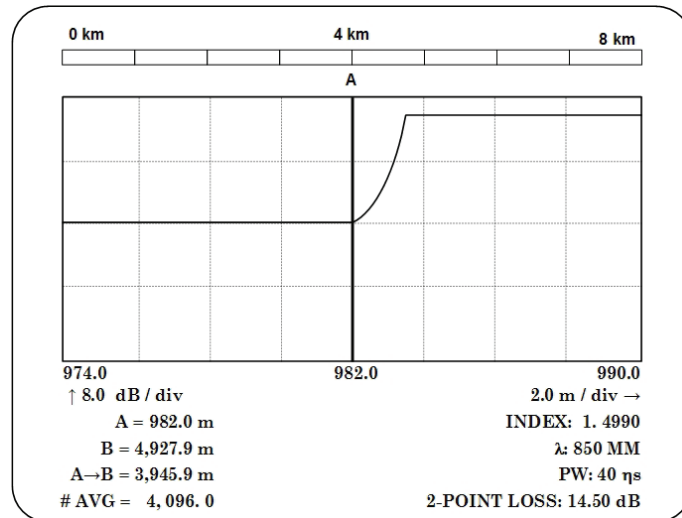

Figure 25. Example of FOCUS generated pulse placed in best possible position with respect to cursor A (TD-260C).
- (4) Press digital delay generator **MENU DELAY** pushbutton to increase $A = T+$ by 1 nanosecond.
- (5) Press **FAST SCAN** pushbutton and wait for **LASER ON/AVG** to go off display.
- (6) Repeat technique of (4) and (5) above until very beginning of FOCUS generated pulse is on cursor A, figure 25. (Digital delay generator $A = T+$ value will be lowest value to obtain this condition).